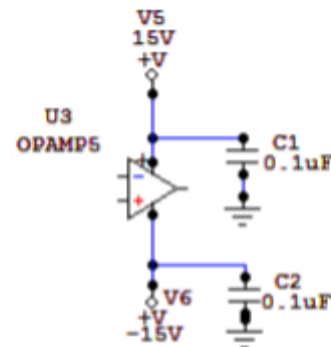

Figure 2. Bypass caps on op-amp rails
- 1) The +15V and -15V power supply rails on the op-amps in this project should all include bypass capacitors, as shown in figure 2. These bypass caps are used to shunt the noise in the DC power supply to ground in practical application. For a hardware build, they should be located as near the opamp as possible. Due to restrictions on the number of components per schematic, and because the bypass caps serve no purpose in our simulations in CircuitMaker, they are not shown in the following schematics.